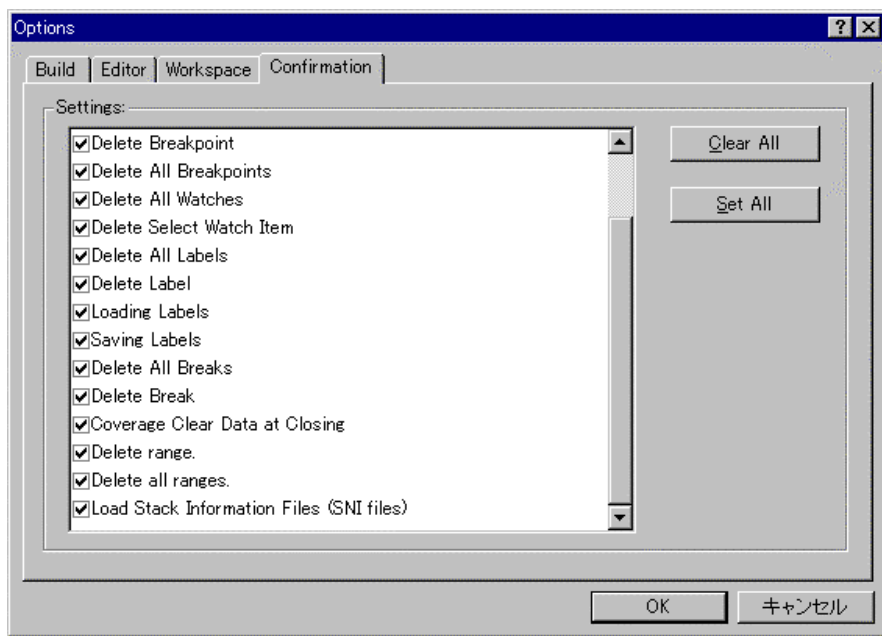

Figure 8.3: Options Dialog Box
- The “Load Stack Information Files (SNI files)” check box is checked in the “Confirmation” pane of the Options dialog box (figure 8.3) that can be opened by selecting [**Tools->Options**] from the main menu